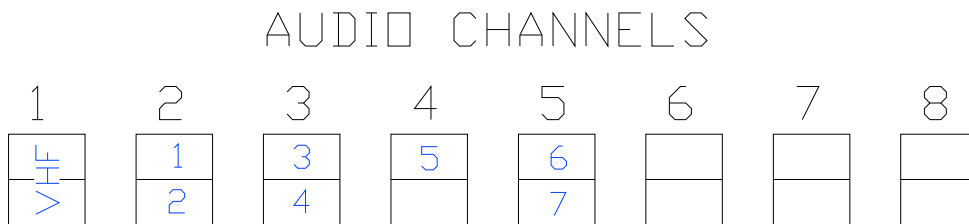

Figure 8-32 - Sample Audio Module Connections for Ship Example 1
*NOTE: In Figure 8-32 - Sample Audio Module Connections for Ship Example 1 below that Mics 1 and 2 are connected to Channel 2, Mics 3 and 4 are connected to Channel 3, and Mic 5 is connected to the top input of Channel 4. The 2 exterior mics (6 and 7) are connected to Channel 5. An external microphone **must not** be placed on the same channel as an internal microphone.*